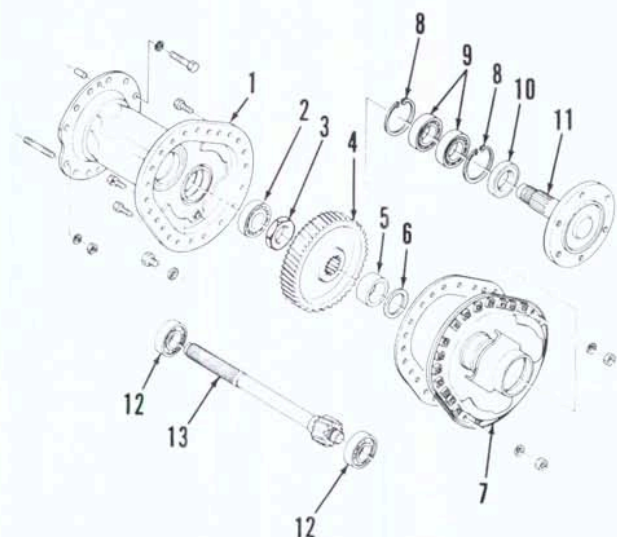

Fig. 138—Exploded view of final drive assembly used on Models L235 and L275.
(1—Fig. 138) from cover (7). Secure axle shaft (11) in a vise and remove nut (3). Remove bull gear (4) and differential gear shaft (13) as a unit. Tap axle shaft out of housing being careful not to damage shaft. Remove bearings (9) and oil seal (10).